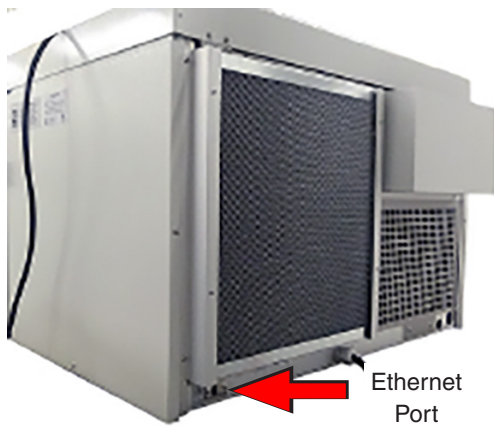
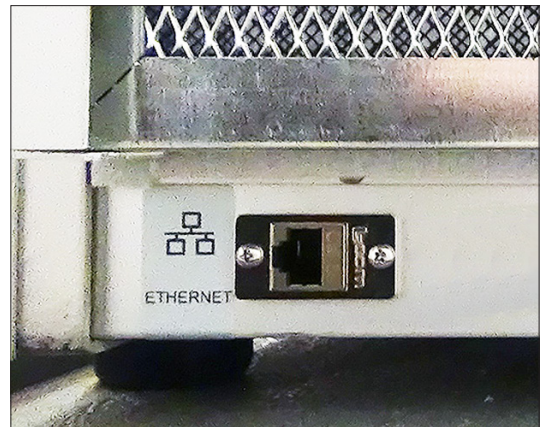

Figure 14.1a: Ethernet port located on lower left rear of tester.
Figure 14.1b: Ethernet port.
- A Ethernet port is located at the rear lower left corner of the tester (Figure 14.1a and Figure 14.1b).